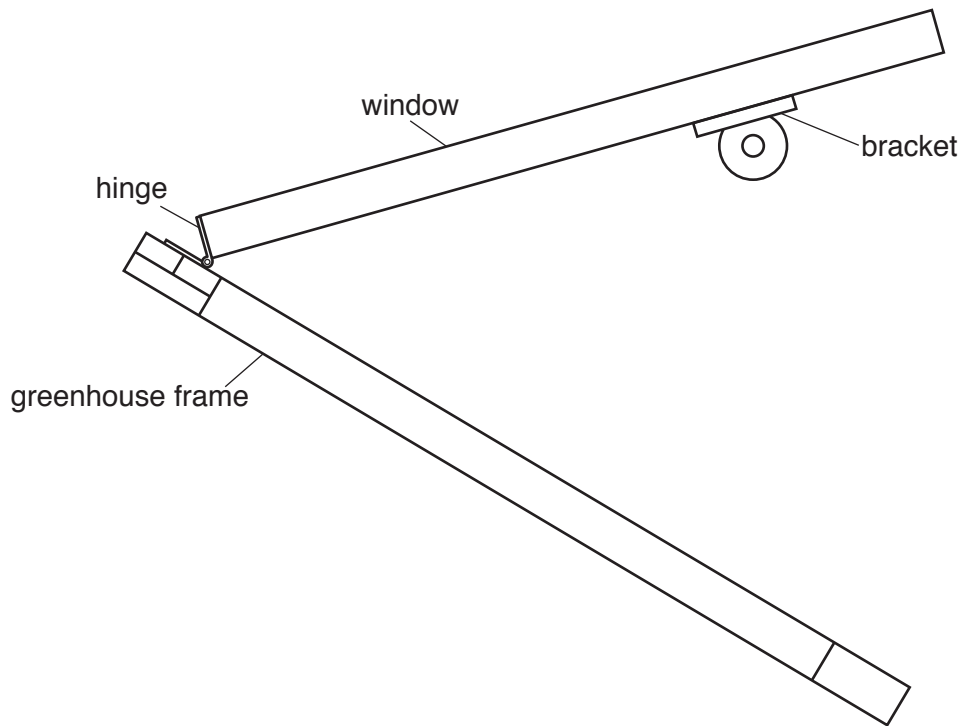
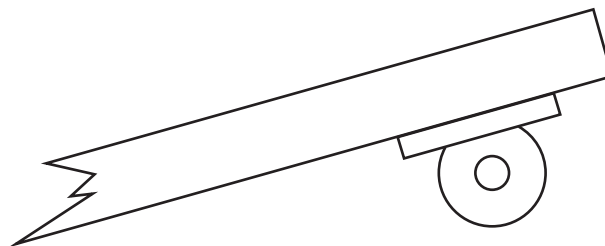

Fig. 12
Fig. 13
- (ii) The mechanism shown used on the pillar drill is also suitable for opening heavier windows in a greenhouse. Fig. 12 shows the outline of a greenhouse window. Use sketches and notes to show how the mechanism from Fig. 11 could be used to open and close the greenhouse window.
- (iii) Use notes and sketches on Fig. 13 to show how the mechanism you have added in Fig. 12 is connected to the bracket. The connection must be moveable.